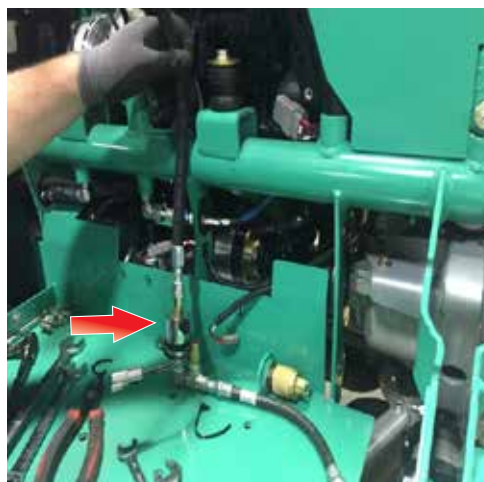

Figure 21. Safety Lock Off Valve Removal
20. Remove the safety lock-off valve as an assembly (Figure 21).